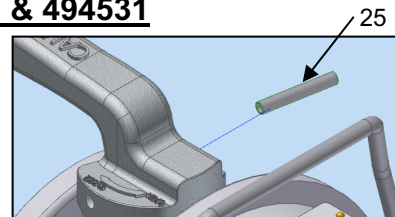

Fig. 13
9. With Lever still open, use a hammer and punch to remove roll pin (25) from lever (3). Slide lever off the end of the shaft. (See Fig. 13)
11. Slide shaft out to expose spacer (14) and O-Ring (13). Remove spacer and O-Ring discard O-Ring. Thoroughly clean the bore. If Replacing Bearings (11&12) go to step 13.
12. Lubricate New O-Ring (13) with Parker Super Lube (or equivalent) and assemble in reverse order. Lubricate new dust seal (15) before installation. Replace Lever (3) and using a hammer & punch install New Roll Pin (25). (See Fig. 13) Return to step 8.
35. Using a hammer and punch, remove roll pin (25) from lever (3). Slide lever off the end of the shaft. (See Fig. 13)
37. Replace New Lever (3) and using a hammer & punch install New Roll Pin (25). (See Fig. 13)